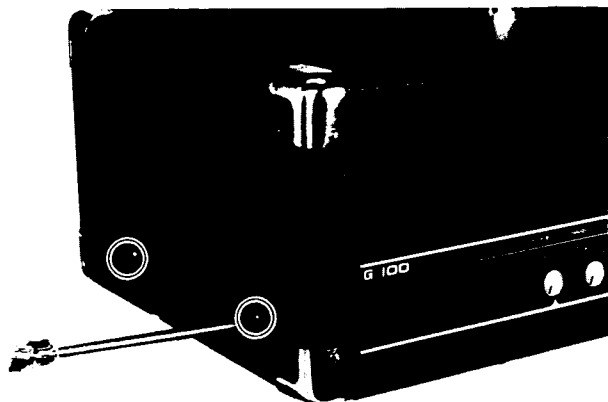

Fig. 1
1. Remove the 2 screws on each side of the top case, as shown in Figure 1.